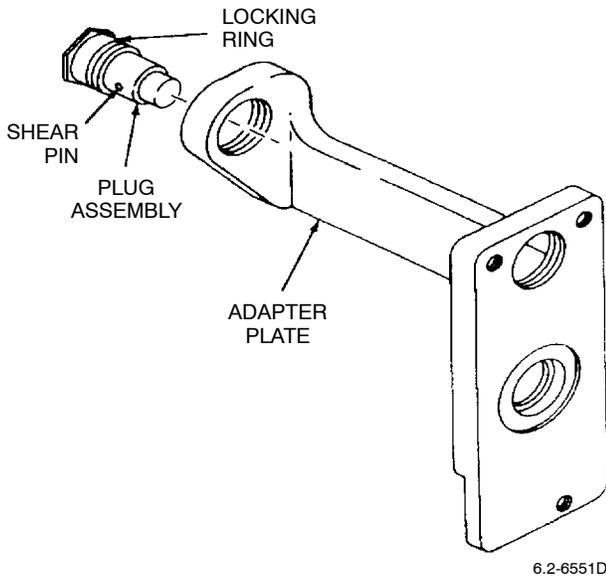

Figure 5. Trial Fit Plug
d. Trial fit plug by screwing finger-tight into small arm of adapter plate until thread locking ring contacts adapter plate (Figure 5).